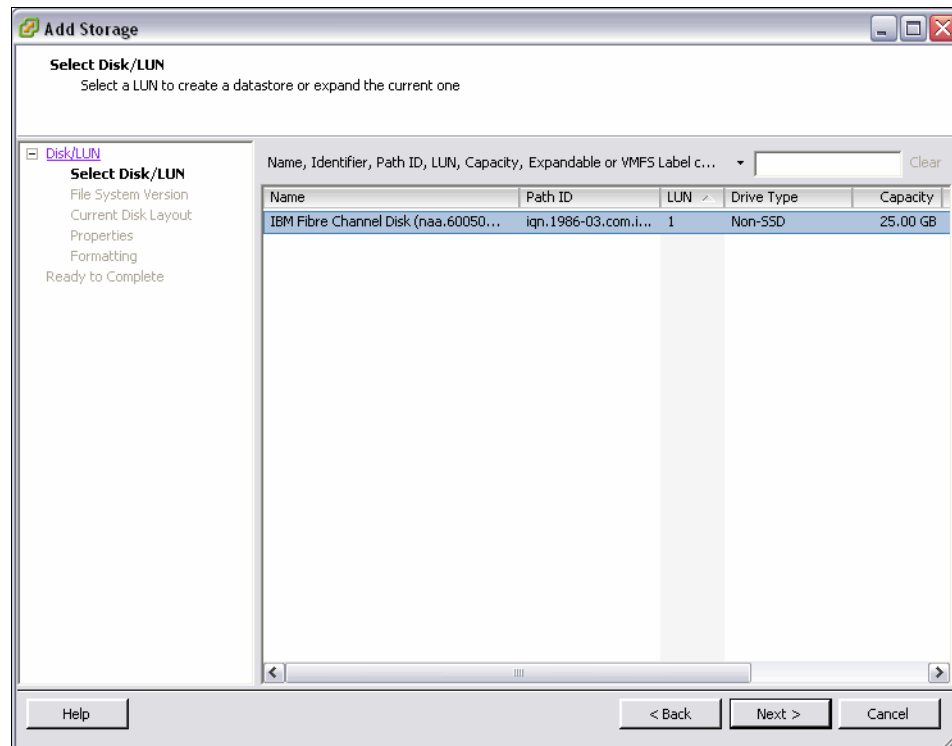

Figure 5-68 Select iSCSI LUN menu
9. The new iSCSI LUN displays. Highlight it and click **Next**, as shown in Figure 5-68.